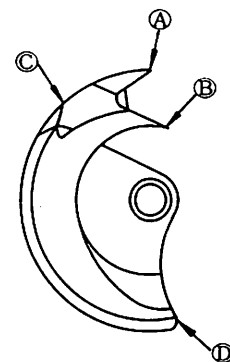

Fig. 25
1) Scratched shuttle (Fig. 25)